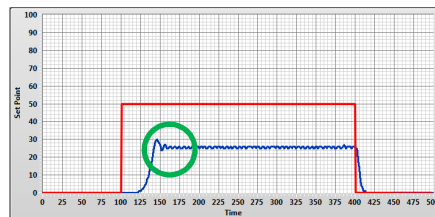

Fig. 41 – Oscillating System
- 4) Increase the $K_p = K_{osc}$ gain until the system starts oscillating. In fig.41 the red line is the reference and the blue line is the transducer voltage value.